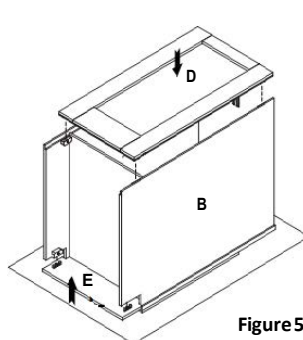

Figure 5
4. Installing the Back Panel and Toe Kick (Figure 5): Before you start this step, place the back panel (D) on a flat surface facing upward. Install the drawer rail holders (f) in the pre-spotted area on the back panel (Figure 6). Secure them with 2 flat head screws (e) (Figure 6). Then put the back panel (D) at rear of side panels (B) (Figure 5). Align and lock each cam lock. Install the Toe Kick (E) by locking the cam lock at both ends (Figure 5).